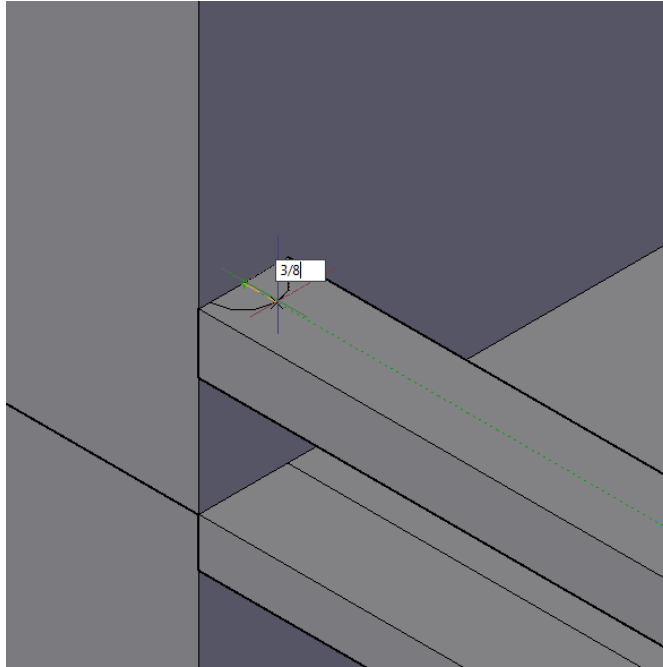

FIGURE 16.54: Creating the first railing post cylinder
- At the Specify center point of base or: prompt, click the midpoint of the first lower railing that you drew, where it meets the exterior wall, and enter $3/8$ (9.5) for the radius (see Figure 16.54).